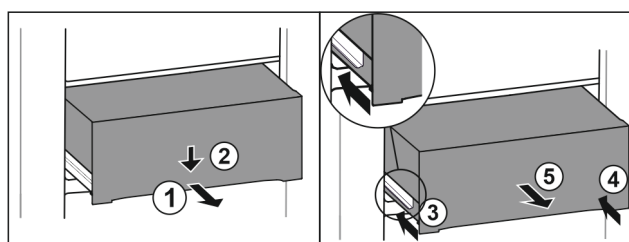

Fig. 107
- Pull out drawer half-way. Fig. 107 (1)
- Push the drawer down at the front. Fig. 107 (2)
- Push the left rail in by about 2 cm. Fig. 107 (3)
- Push the right rail in by about 2 cm. Fig. 107 (4)
- Remove drawer to the front. Fig. 107 (5)